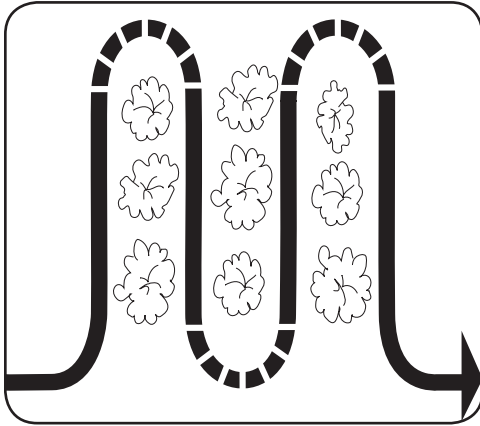

Figure 4-5
- When cultivating (breaking up the surface soil around the plants to destroy weeds, see Figure 4-5), adjust the tines to dig only 1" to 2" deep. Using the shallow tilling depth helps prevent injury to the plants whose roots often grow close to the surface. If needed, lift up on the handlebars slightly to prevent the tines from digging too deeply. (Cultivating on a regular basis not only eliminates weeds, it also loosens and aerates the soil for better moisture absorption and faster plant growth.) Watering the garden area a few days prior to tilling will make tilling easier, as will letting the newly worked soil set for a day or two before making a final, deep tilling pass.